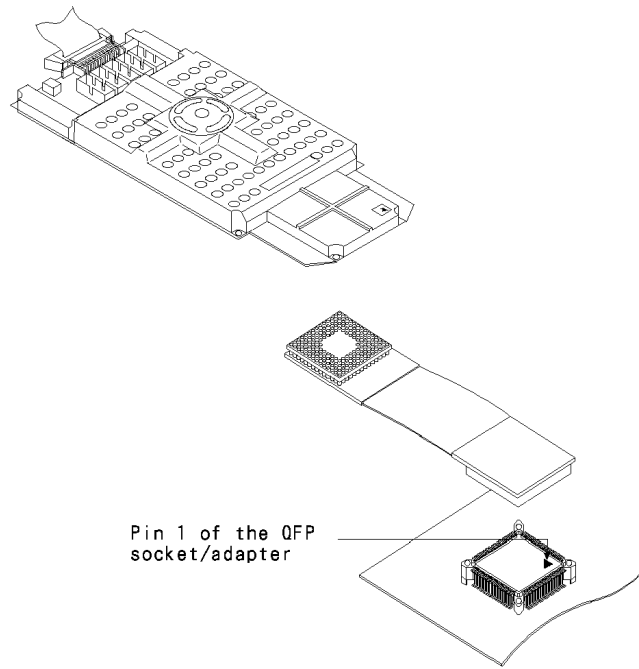

Figure 5-1. Connecting HP E3472A/73A Emulator into the Target System.
- 4 Connect the QFP cable so that pin 1 of the QFP cable is inserted into pin 1 of the QFP socket/adaptor on the target system (see Figure 5-1).